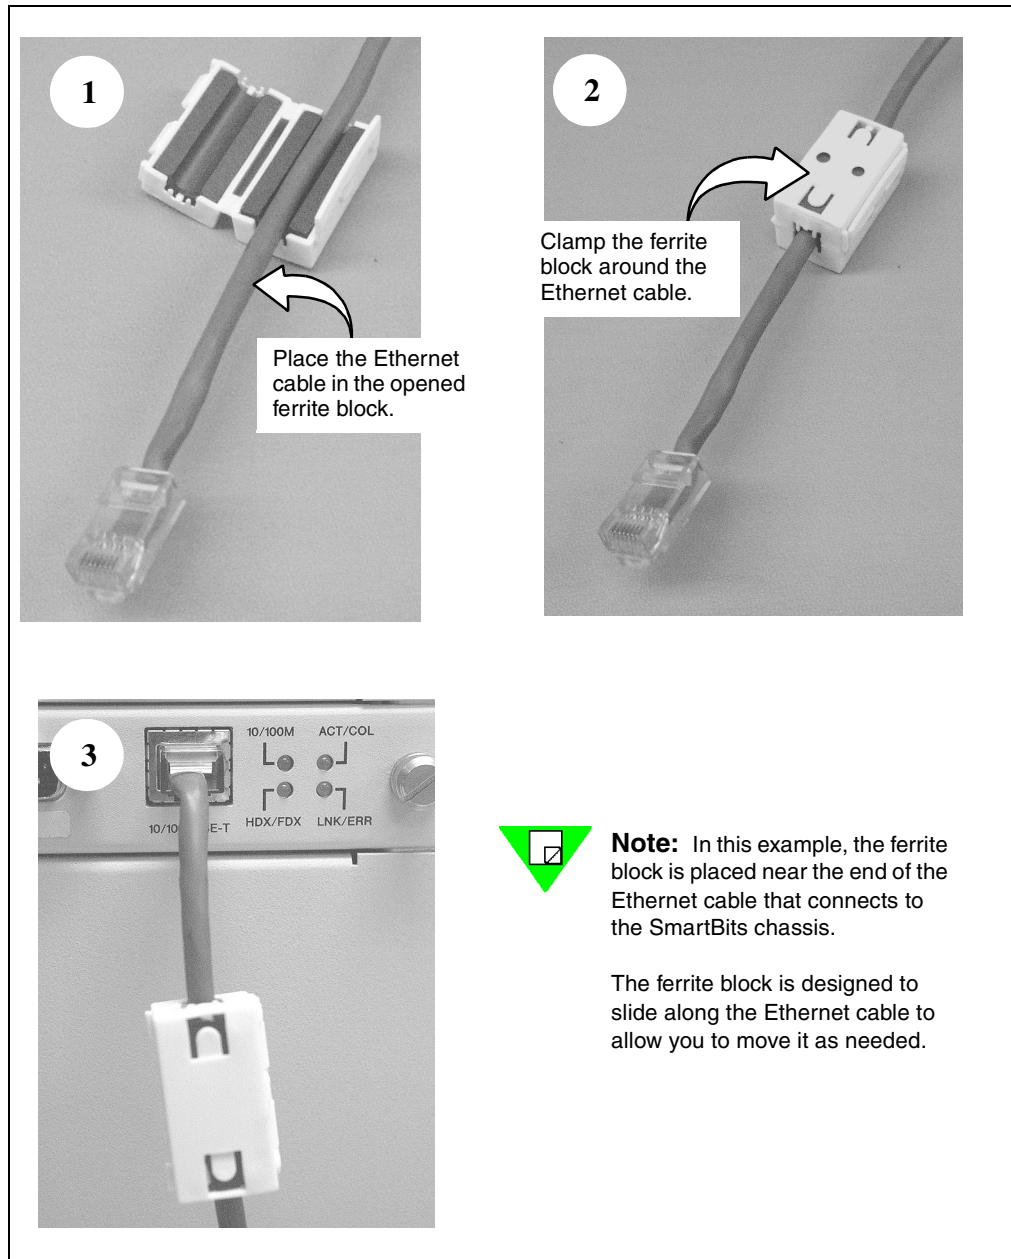

Figure 2-3. Ferrite Block Installation
- 2 Release the built-in clip on the side of the ferrite block and open it so that the center of the ferrite block faces up. Place the Ethernet cable in the open ferrite block (see Figure 2-3, #1).
- 3 Clamp the ferrite block around the Ethernet cable making sure the built-in clip snaps together (see Figure 2-3, #2).
- 4 Connect the Ethernet cable to the chassis (see Figure 2-3, #3).